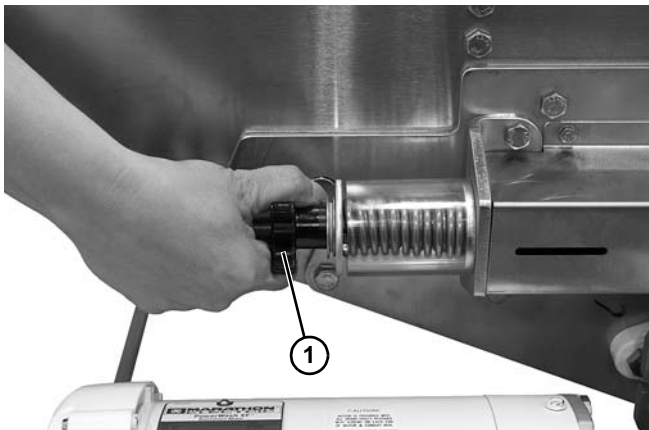

Figure 102
2. Rotate tension nut (Figure 102, item 1) on each side of the center drive counterclockwise to remove all tension on the belt.